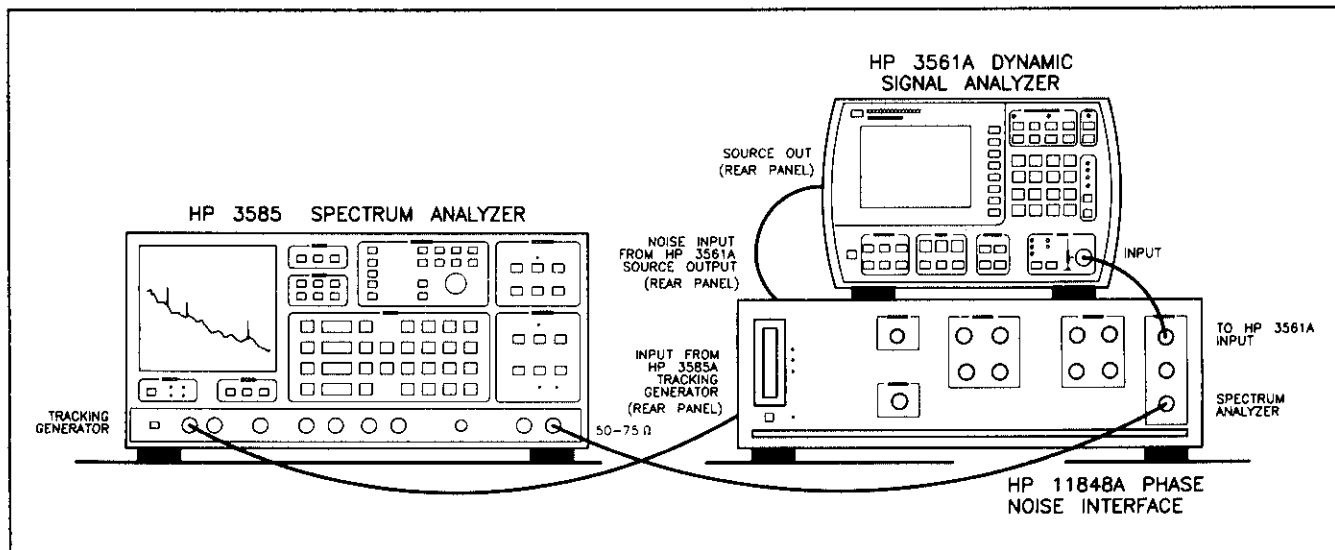

Figure 22. A4 Low-Noise Amplifier Peaking Adjustment Setup
21. Connect the instruments as shown on the display and in figure 22. Also, check that the tracking generator is set for maximum output level.